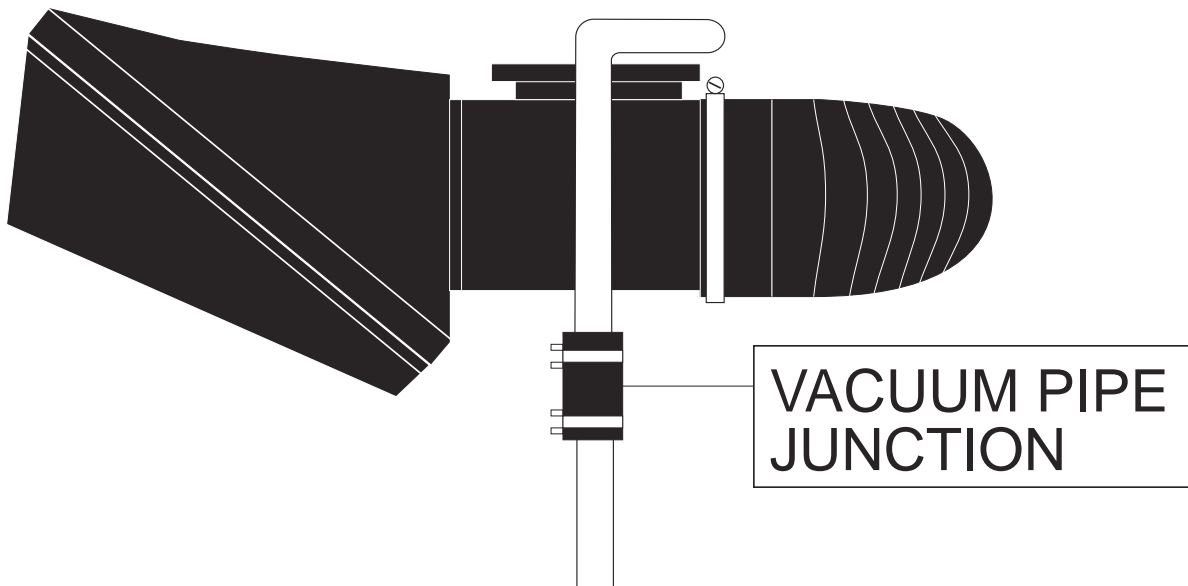

fig. 1
- 3) On some vehicles with a manual transmission; you may need to unhook the vacuum pipe from the rubber hose junction. (see fig. 1)
- 13) Install a nylock nut on the stud and a 15mm long allen bolt in the rear bracket. Gently tighten all fasteners (6) at this time.
- 16) Re-connect the vacuum pipe if the vehicle has a manual transmission. (see fig. 1)